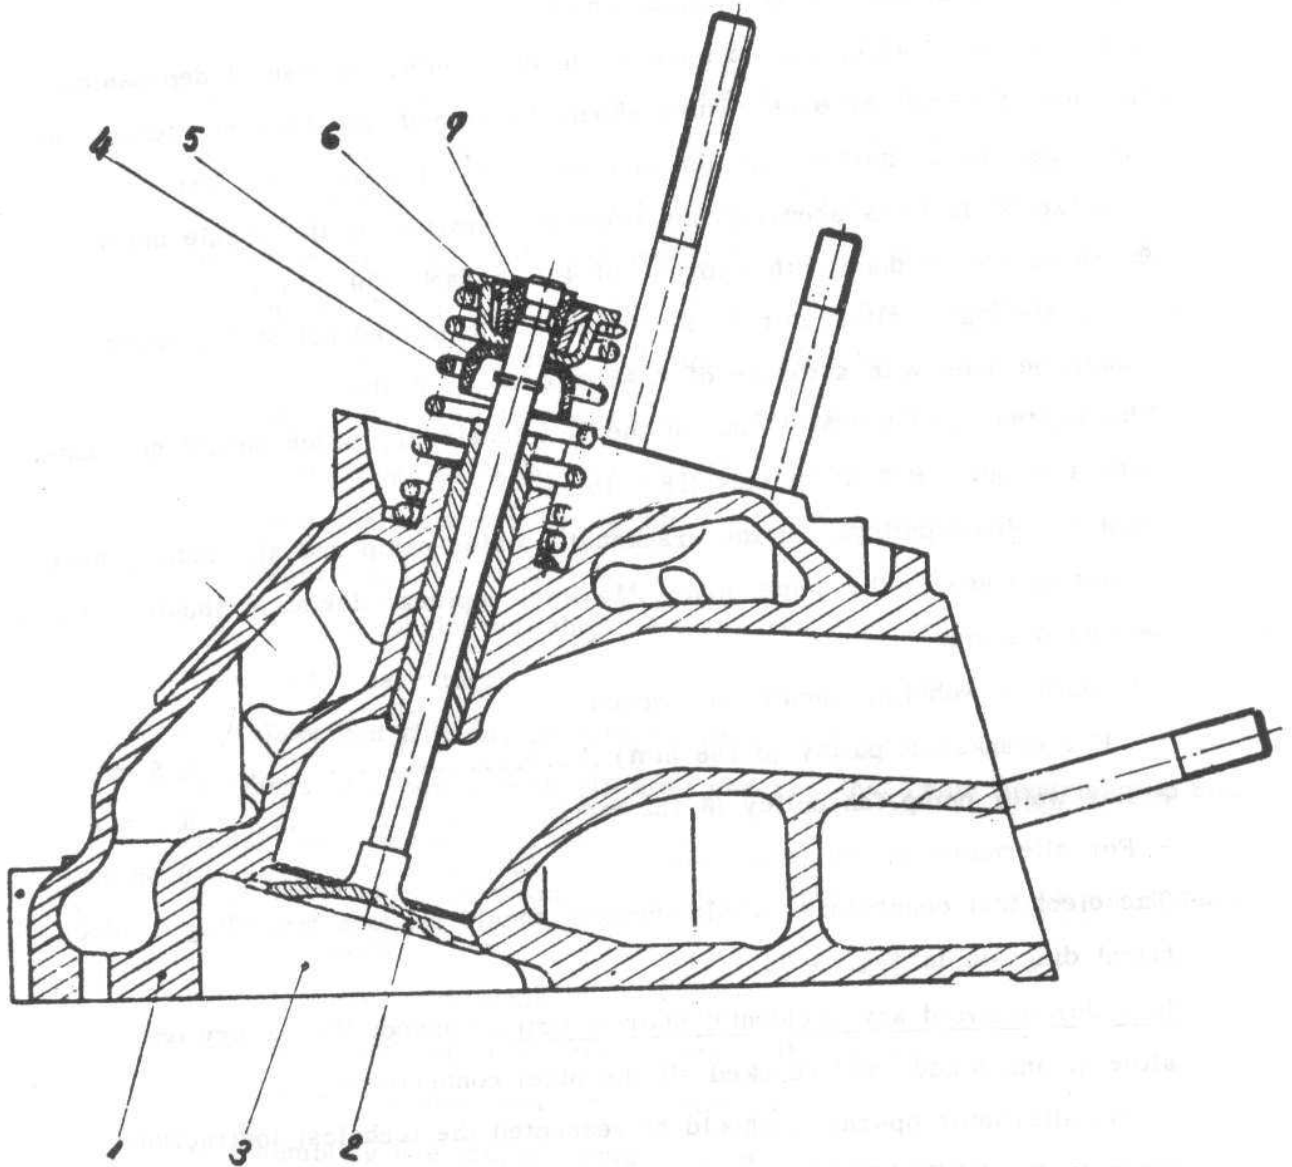

Fig. 4.46. CROSS SECTION OF CYLINDER HEAD (Assy).
The engine cylinder head bears on it engine timing system, inlet manifold and exhaust manifold, and its troubles are in fact, in the first place the troubles of these units and only after them, its own troubles (see Fig. 4.46).
- Compress the spring and remove half-cotters and valve spring seat (see Fig. 4.46 pos. 7 and 6).
- Introduce the new, original spring and refit the components in reverse order (Fig. 4.46).